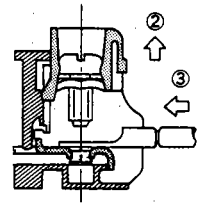

Fig. 2
2. Lift the screw holder for each pole. (Fig. 2, Fig. 8)(Note 2)
3. Insert the crimp terminal. (Fig. 2)